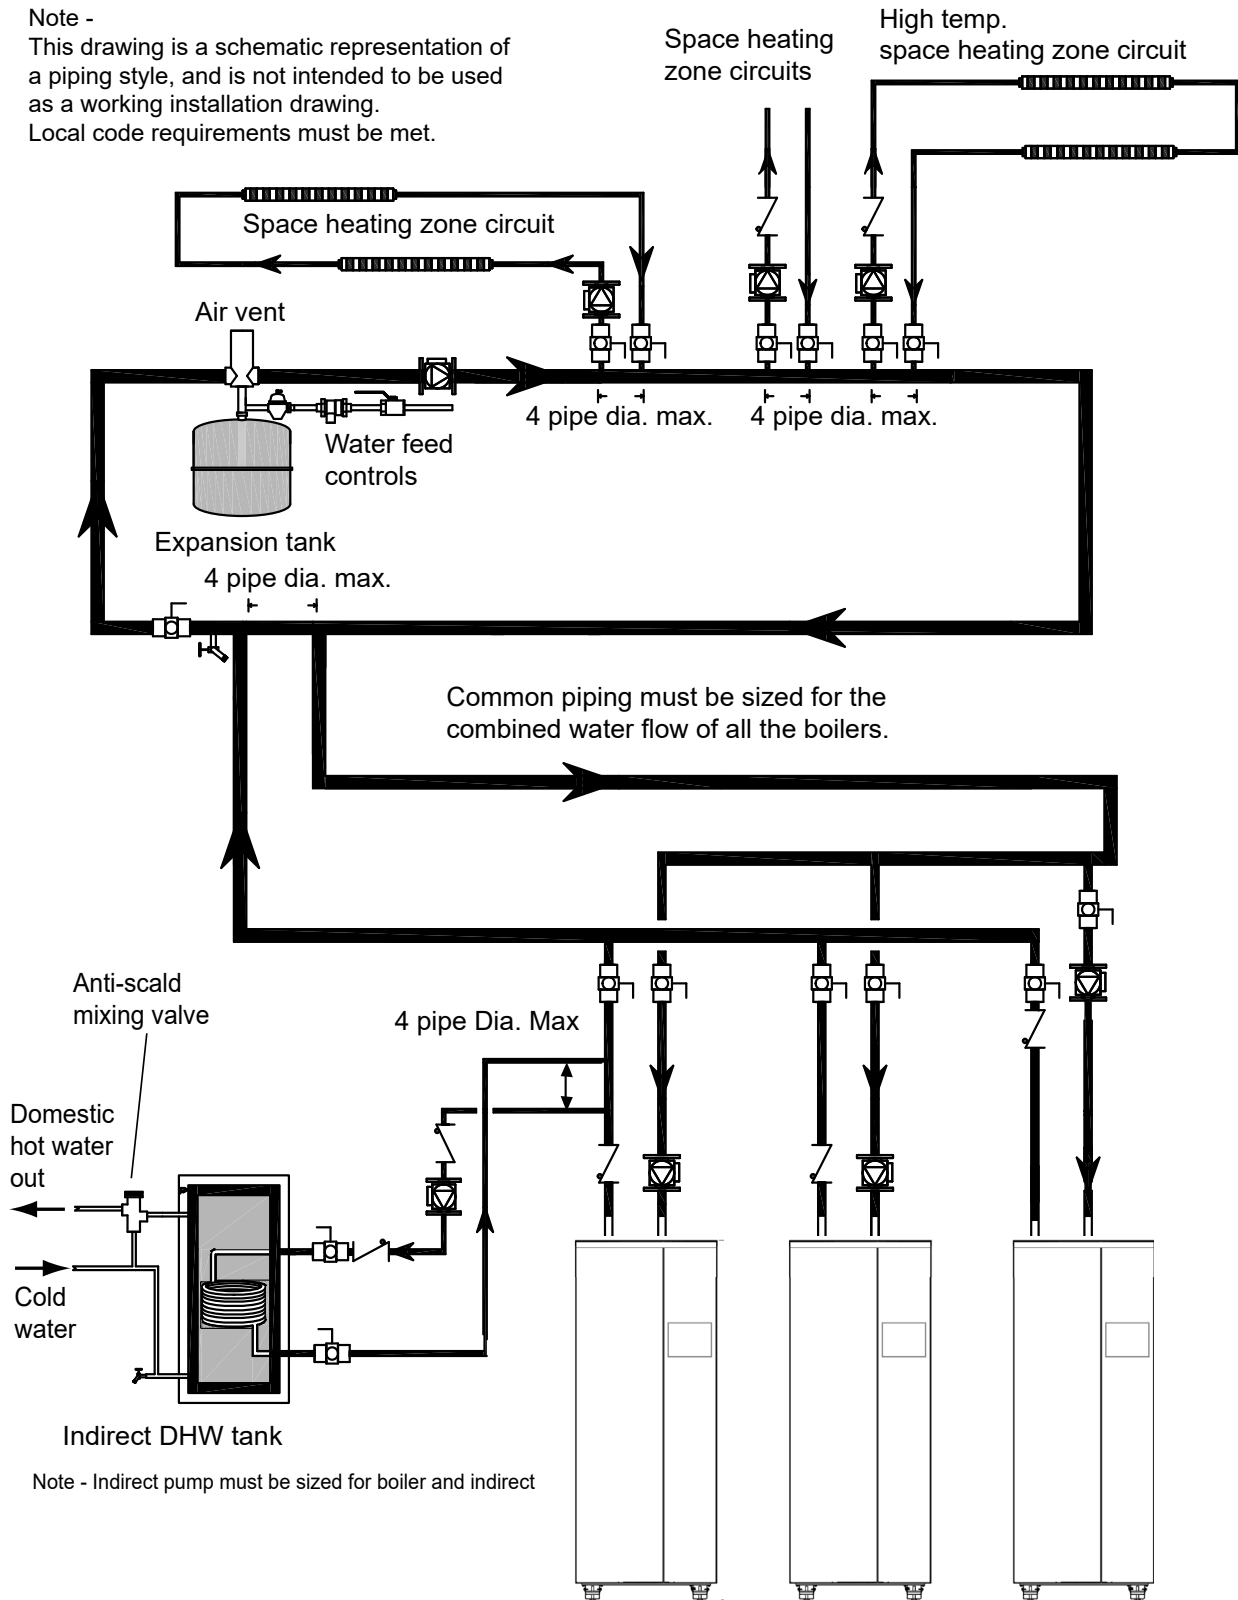

Figure 11. Boiler Piping — Multiple Boilers, Indirect DHW Off of One Boiler
Suggested piping diagrams are shown in Figure 8 through Figure 11. These diagrams are meant only as guides. Components required by local codes must be properly installed.
**This unit's efficiency is higher with lower return water temperatures.** Therefore, to get the best low return temperature with multiple boilers, pipe as shown in Figure 10 and Figure 11 on page 28.
Figure 8 on page 25 through Figure 11 on page 28 show suggested piping configurations for boilers. These diagrams are only meant as guides. All components or piping required by local code must be installed.